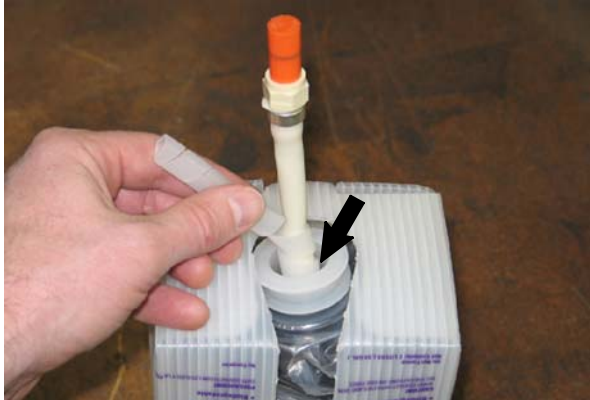
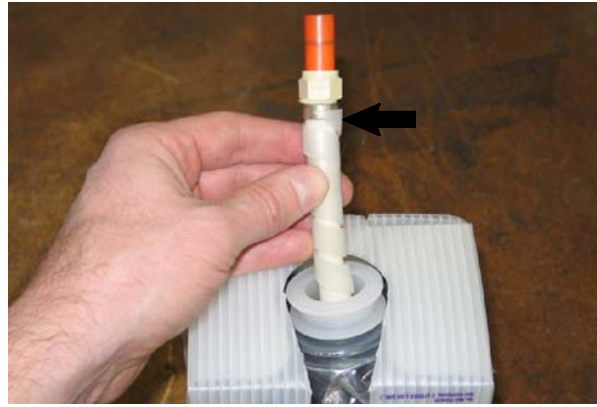

FIG. 3
FIG. 4
3. Wrap the conduit (1) around the hose from where the hose is attached to the FaST-PAK carton fitting inside the collar to the metal ring holding the hose onto the coupling. A small portion of the conduit should wrap around the metal ring. Refer to Fig. 3 and Fig. 4.